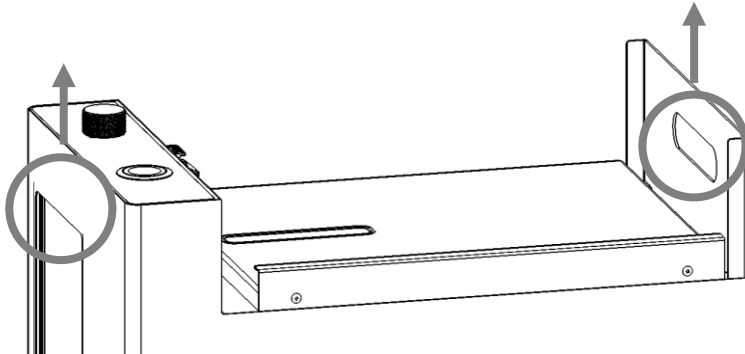

Figure 1: Handles for transport (packing / unpacking)
- The preceding *Figure 1* clearly illustrates the two mentioned grip positions and the direction of movement for removal.